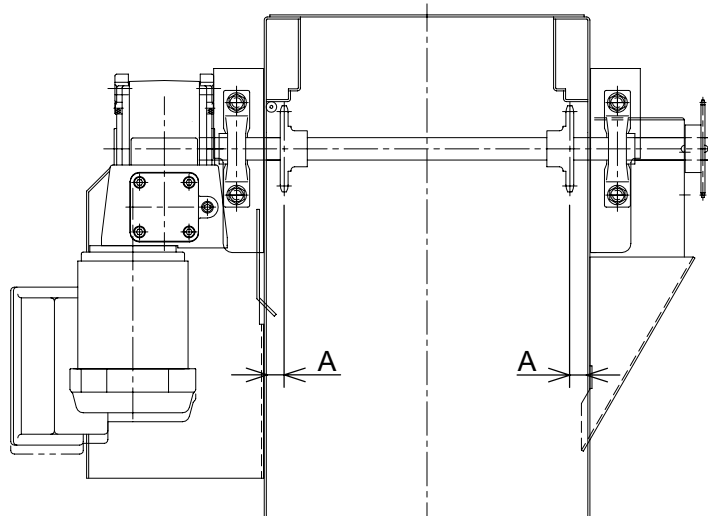

Fig.6
- (2) Loosen the lock nuts to bolt 'A' and the take-up bolts.
- (3) Turn the take-up bolts until it gets tight in the tension increasing direction. After that, rotate the take-up bolts counter-clockwise, and return approx. 1.5 rotation. Left and right take-up bolts are independent of one another, therefore keep tension even on both sides.
- (4) Measure distance 'A' (Fig. 6) between the main sprocket wheel and the inside edge of the frame on both sides, and make sure the main shaft is not off-center.